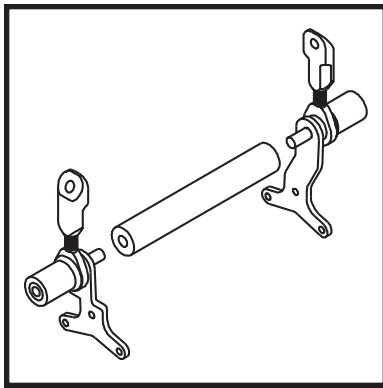

Figure 2: Ankle Joint Assembly with Alignment Kit
2. Substitute the two alignment screws for the ankle joint screws for positioning of joints on alignment rod as shown in Figure 2.